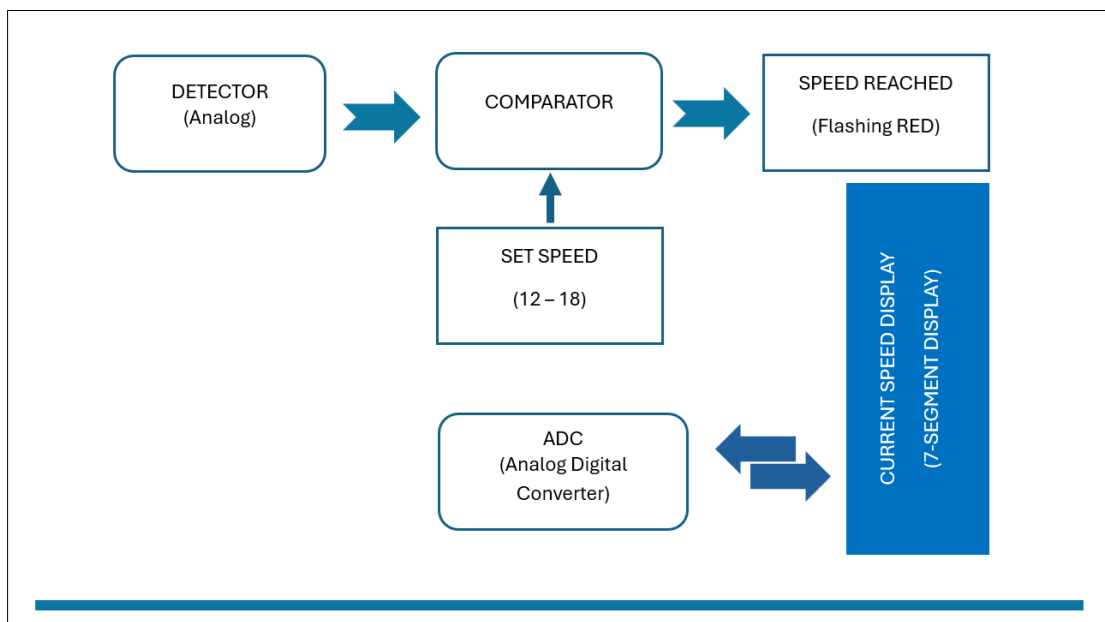

Figure 1: Automated cruise speed control system.
1. Design a control system using any practical electronic COMPONENTS to demonstrate a vehicle cruise control system based on the system in **Figure 1**, below. No microcontroller nor PLC's solution. Please use ELECTRONIC circuits/components.